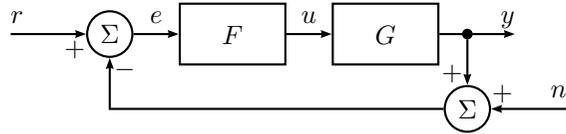

Figure 3.28a
3.28 Figure 3.28a shows a block diagram of a control system. Determine the transfer function
3.29 Consider again the control system in Figure 3.28a, with $n = 0$ and